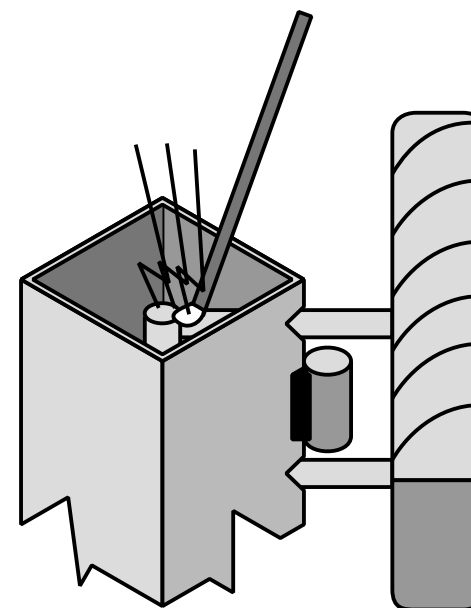

Figure 10: welding re-bar to frames for wooden load pads.
- 7) Now put the nails through the blown holes and weld a piece of nail across the ends of the nails as shown in Figure 10. Welding down inside the tube looks difficult but skilled workers can weld the pads in about one minute.